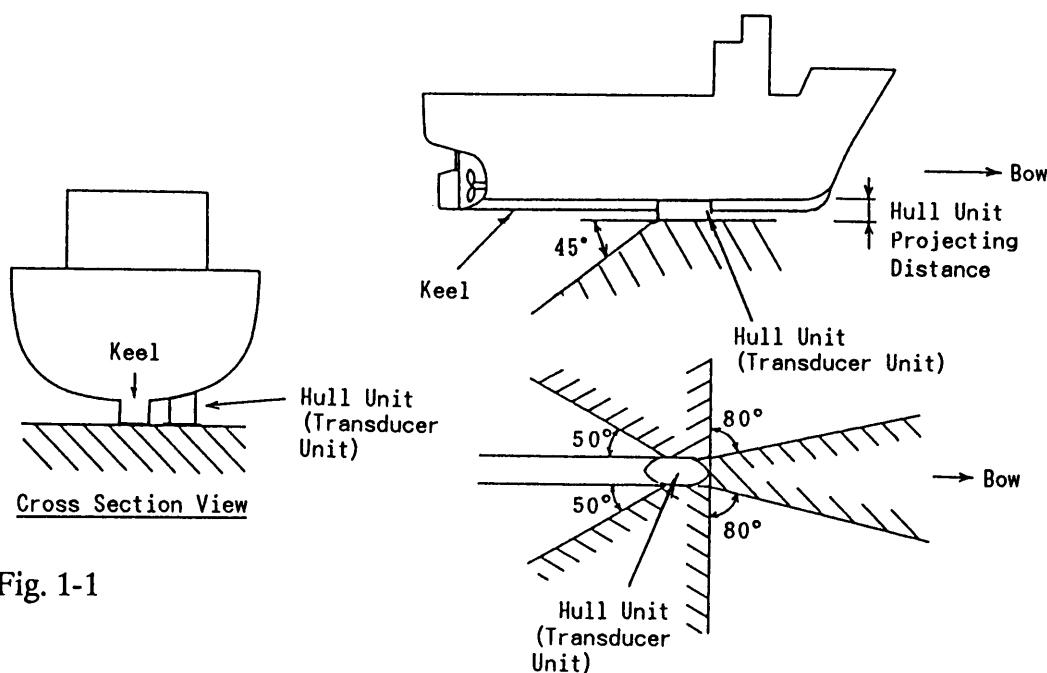

Fig. 1-1
- a) No projections (such as sonar's retraction tank) should exist in the hatched area shown in Fig. 1-1. However, when the transducer unit projects below the lowest part of the keel, the effects when the sonar transducer is lowered must be taken into account.